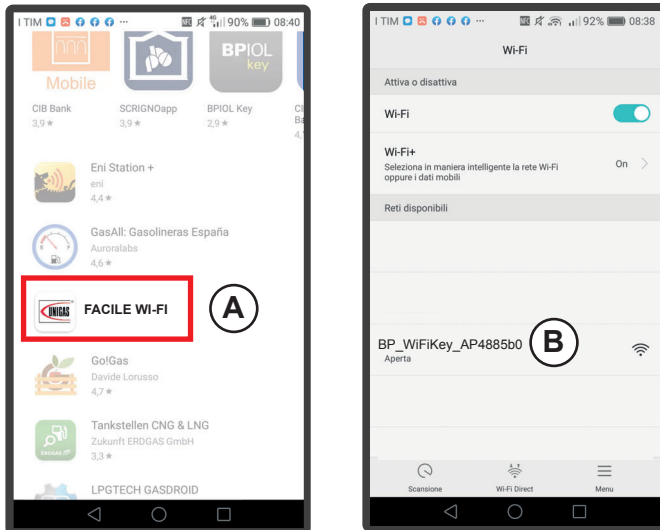

Fig. 1
1.2 - Using an Android device (mobile phone or tablet), connect to the WI-FI network (B) generated by the burner WI-FI module (Fig. 1). The name of the network generated by the module is shown on the WI-FI module ID label (Fig. 2).